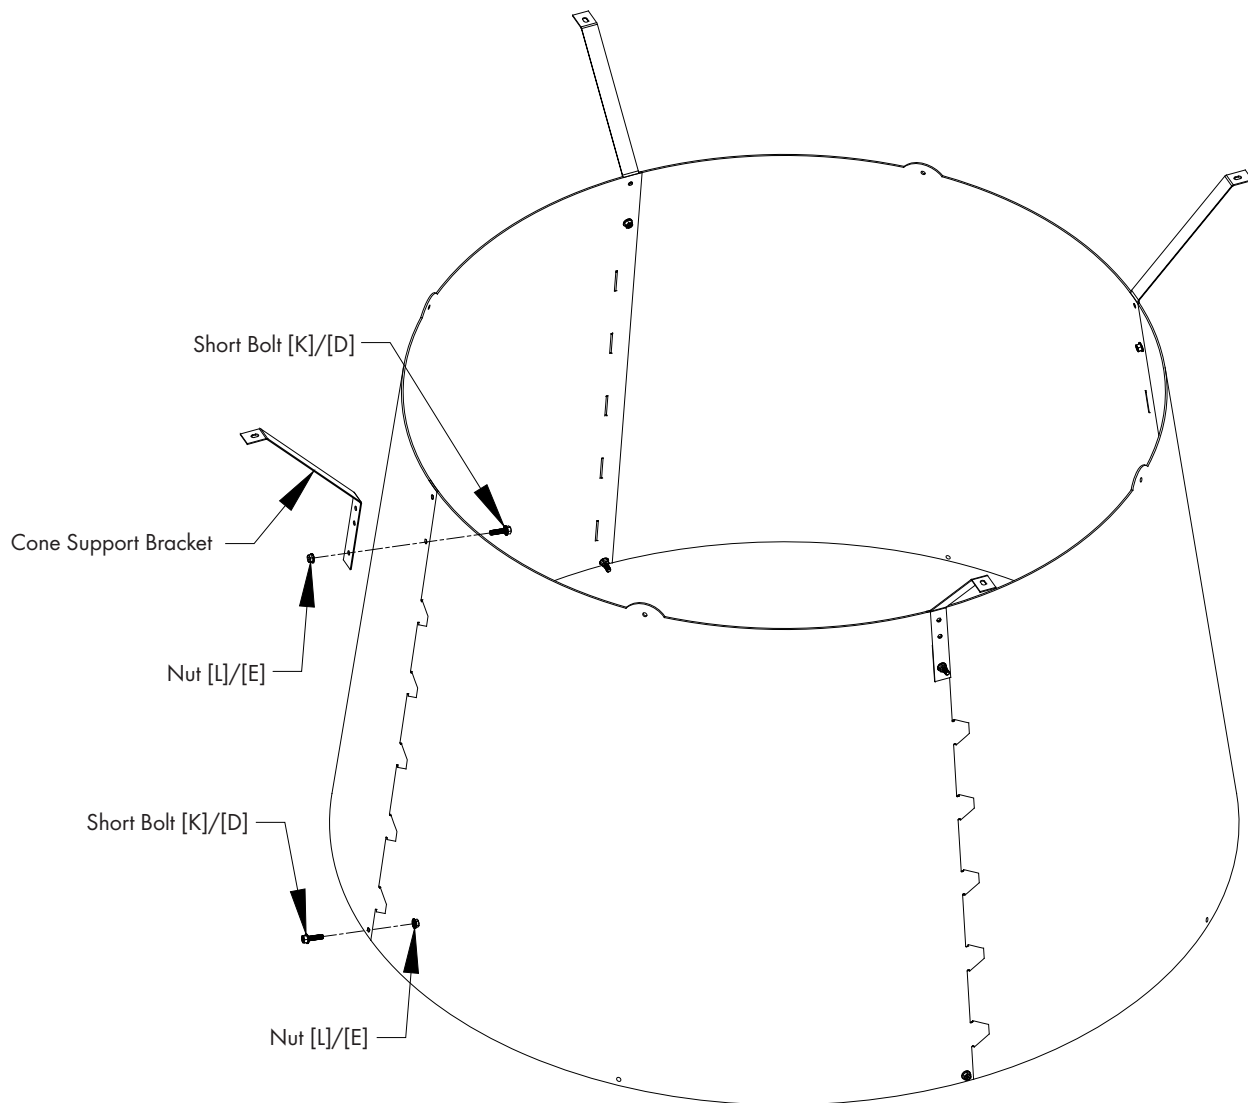

Figure 12B
Stand cone sections on end and curl ends around to form cone with Cone Support Bracket on outside and tabs on inside. Insert remaining tabs into slots so tabs are inside cone. For **WS55xK Fan** fasten final joint using (1) Short Bolt [K] and Nut [L], with nut on inside of cone. At the inner pair of holes attach (1) Cone Support Bracket to the inner hole using (1) Short Bolt [K] and Nut [L] with bolt head on inside of cone. For **WS55xP Fan** fasten final joint using (1) Short Bolt [D] and Nut [E], with nut on inside of cone. At the inner pair of holes attach (1) Cone Support Bracket to the inner hole using (1) Short Bolt [D] and Nut [E] with bolt head on inside of cone. See Figure 12B.